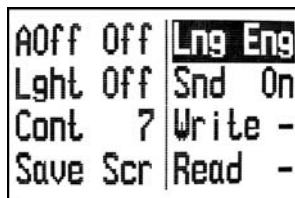

Fig. 13
6.20 The device has a Service menu (Fig. 13). To enter the Service menu, press the buttons  and **+** simultaneously, and a rising beep will sound. The parameters of the Service menu are selected and set in the same way as in the main Menu (to select a parameter, use the buttons  and , and to set the required value, use the buttons **+** and **-**). When no buttons are pressed within 2 seconds, the device switches to the previous state,